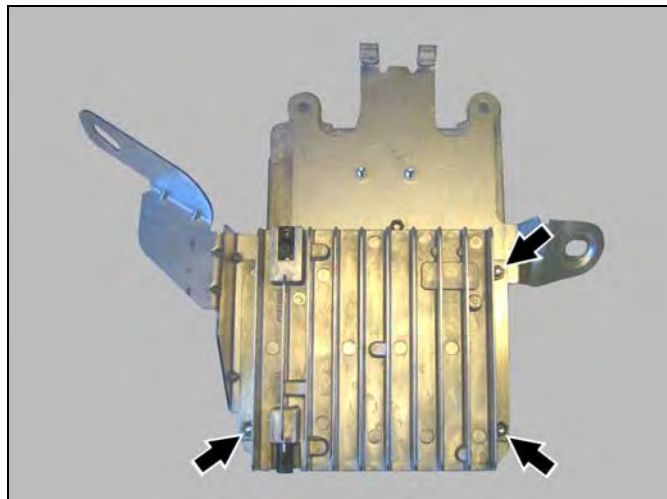

Figure 13
2. Fasten the linear compensator to the **IN A SUITABLE LOCATION USING TIE WRAPS.** threaded studs on the bracket backside with three M3 nuts (Figure 13).
Note: Position the linear compensator receptacles facing the longer arm of the bracket (Figure 13).